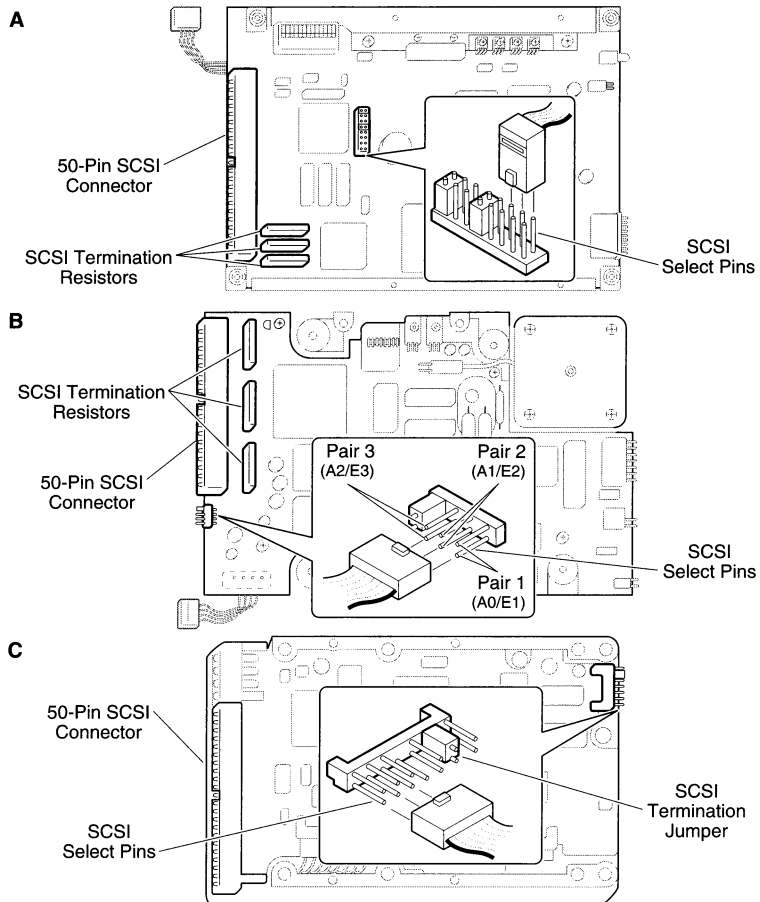

Figure 3 Common SCSI Select Pin and Terminator Resistor Locations
2. FIGURE 3. SCSI select pins are usually located: 1) on top of the controller board, sticking up (Figure 3A), or 2) on the back of the drive, just beside the 50-pin SCSI